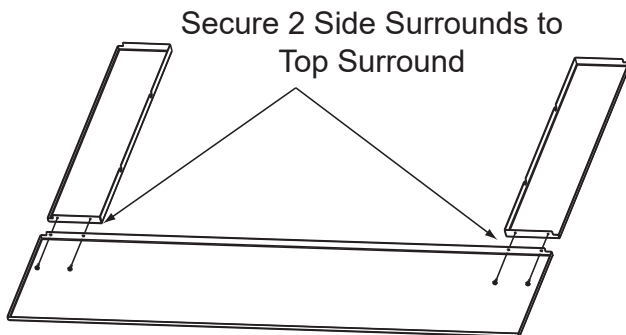

Figure 19.1
2. Using a Phillips head screw driver attach the side surrounds to the top surround using 2 #8 sheet metal screws provided with the kit (**Figure 19.1**).